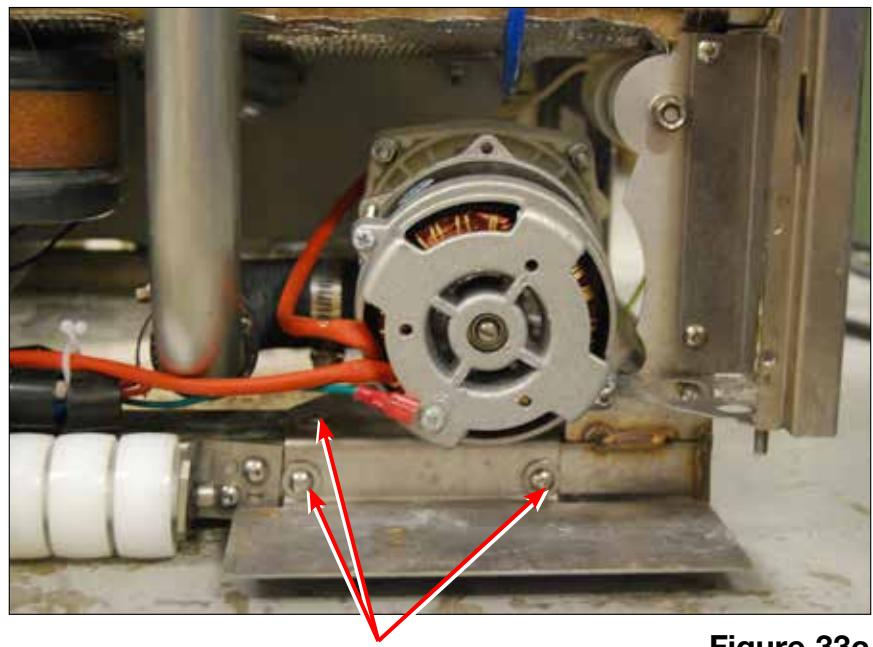

Figure 33c
10. From the rear of the unit, remove the 3 screws fastening the bracket. (Figure 33c)